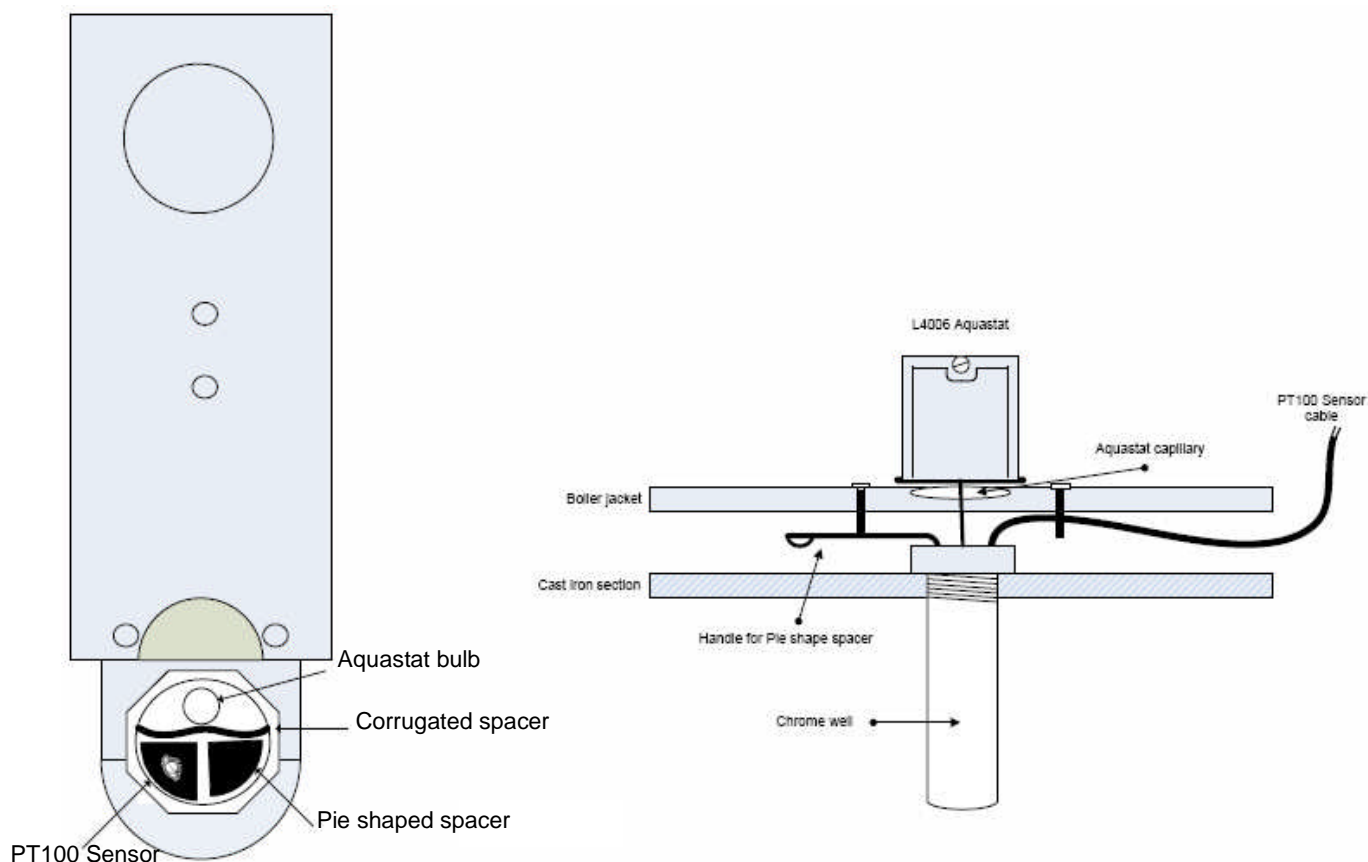

Fig. 6 – Well Assembly
8. Combine the NH burner boiler sensor along with Honeywell capillary and blocking spacer into the immersion well. Make sure all sensors are fully inserted into the well. Screw Honeywell aquastat to top of jacket panel. (see Fig. 6)